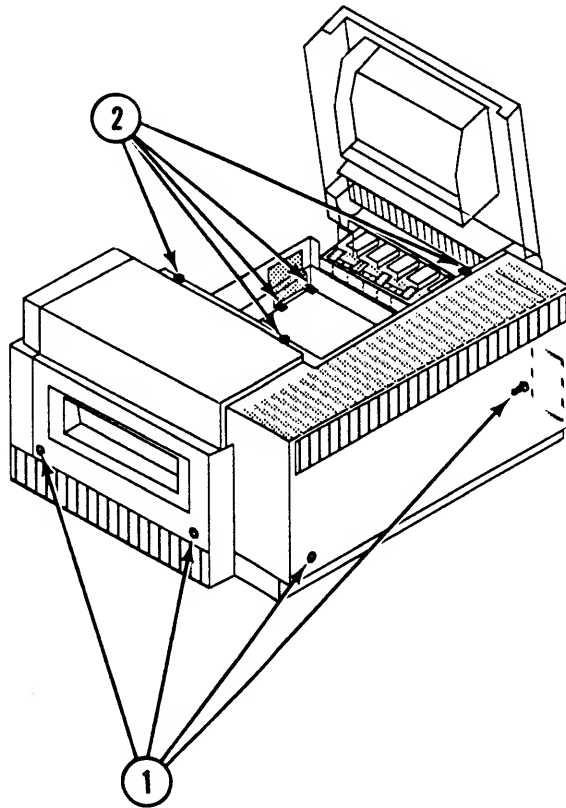

FIGURE 1
1. Remove the four exterior Phillips screws (Figure 1, #1) that secure the cover set to the printer.
3. Remove the five interior Phillips screws (Figure 1, #2).